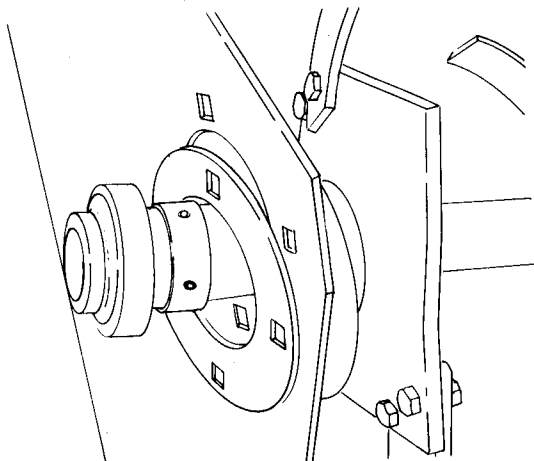

Fig. 26 — Tine Shaft (L.H. Side)
3. Slide tine shaft assembly to the left until right end comes out of sprocket hub in chain case. Both ends of the tine shaft become accessible as shown in Figures 26 and 27.